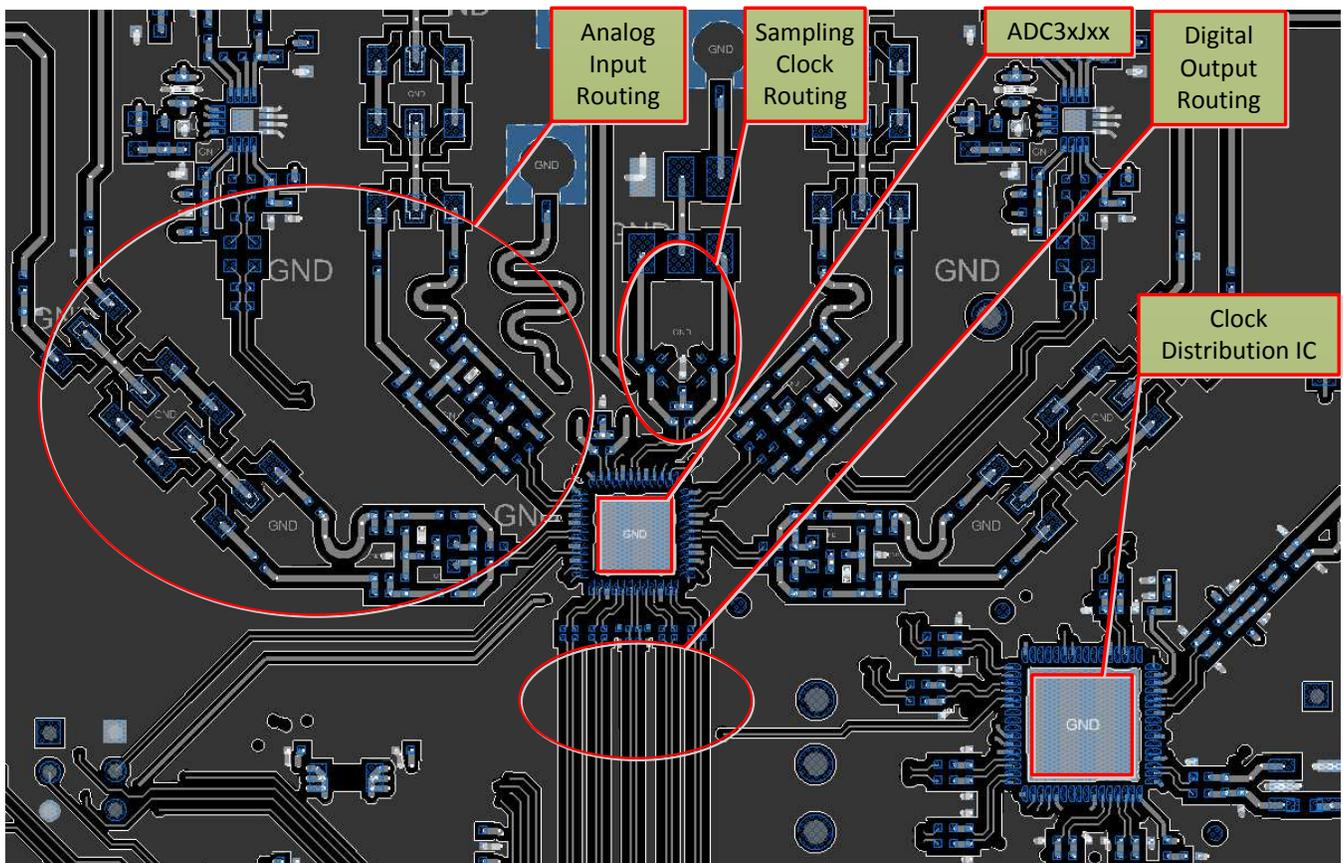

Figure 208. Typical Layout of the ADC34J2x Board
The ADC34J2x EVM layout can be used as a reference layout to obtain the best performance. A layout diagram of the EVM top layer is provided in Figure 208. Some important points to remember while laying out the board are:
1. Analog inputs are located on opposite sides of the device pin out to ensure minimum crosstalk on the package level. To minimize crosstalk onboard, the analog inputs should exit the pin out in opposite directions, as shown in the reference layout of Figure 208 as much as possible.
2. In the device pin out, the sampling clock is located on a side perpendicular to the analog inputs in order to minimize coupling between them. This configuration is also maintained on the reference layout of Figure 208 as much as possible.